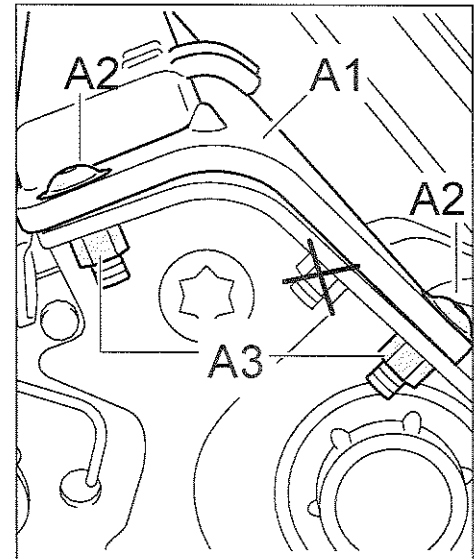

Figure 9
- 4.1 Insert cross member \Rightarrow Figure 9 -A1- from the rear and tighten M5 x 16 screws \Rightarrow Figure 9 -A2- and self-locking nuts \Rightarrow Figure 9 -A3- on both sides.